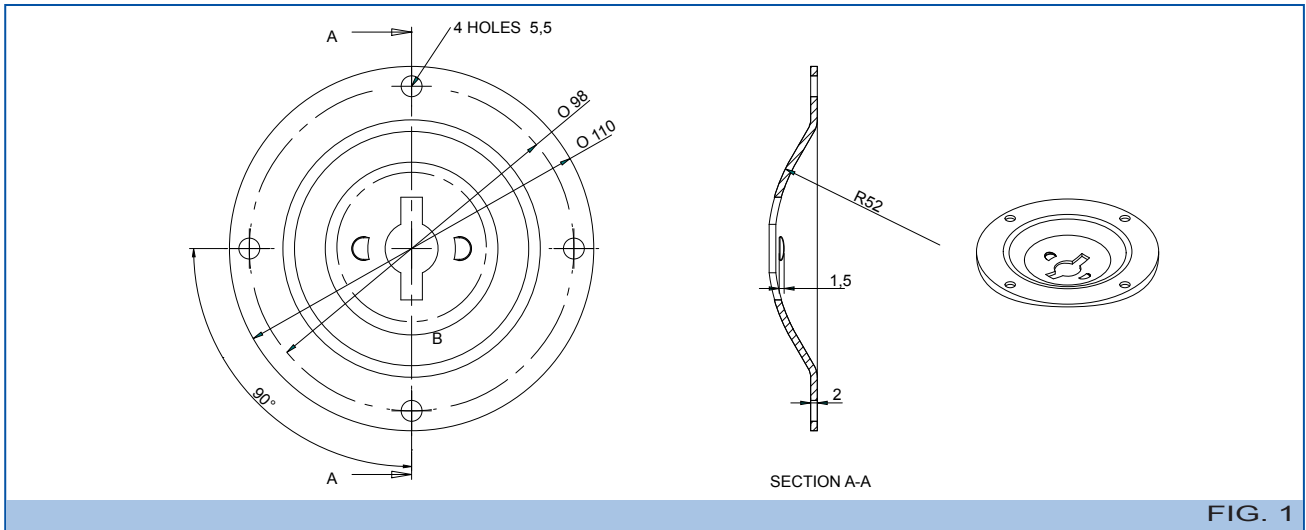

FIG. 1
- a joint with slide pin (A - Fig.1 page 6)
- a telescopic pole (B - Fig. 1 page 6)
- a ground attachment plate (C - Fig. 1 page 6).
1^o Fasten the pole to the joint by turning it counter-clockwise, as shown in Figure 1.